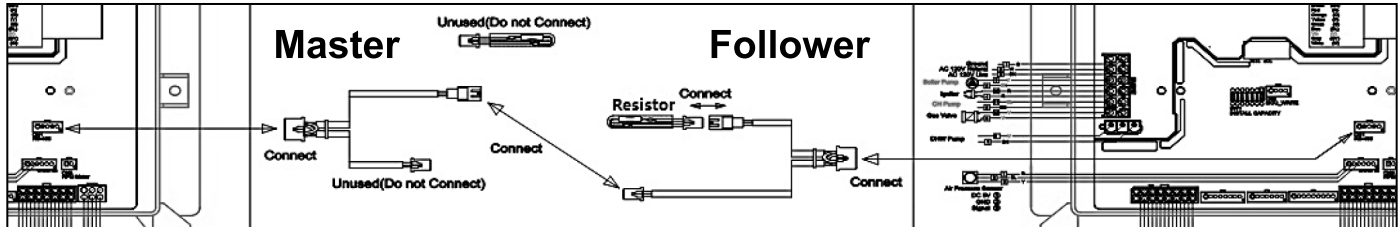

Figure 35 - Cascade Wiring Example
1. Connect the five pin connectors of the cascade communication cables to the control board of every unit. See Figures 35 and 36.